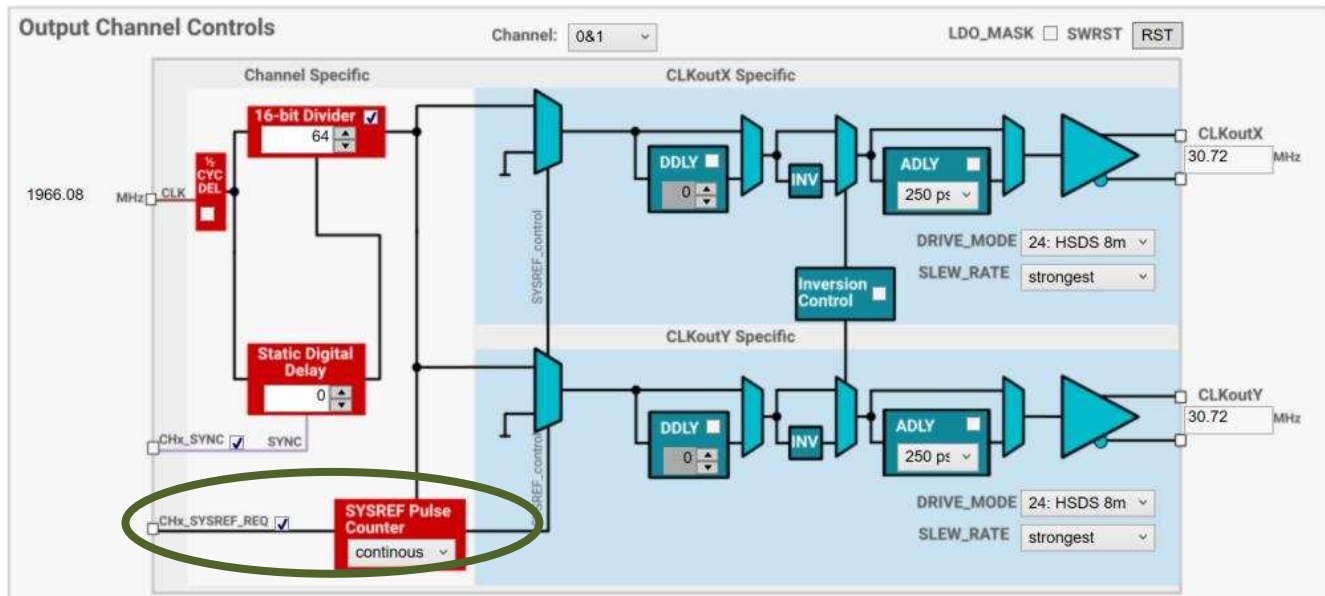

Figure 17. TICSpro Setting an Output in Continuous SYSREF Mode
1. Switch to OUTPUTS tab, enable the SYSREF function for the desired outputs. Set the SYSREF Pulse Counter to Continuous as shown in Figure 17.